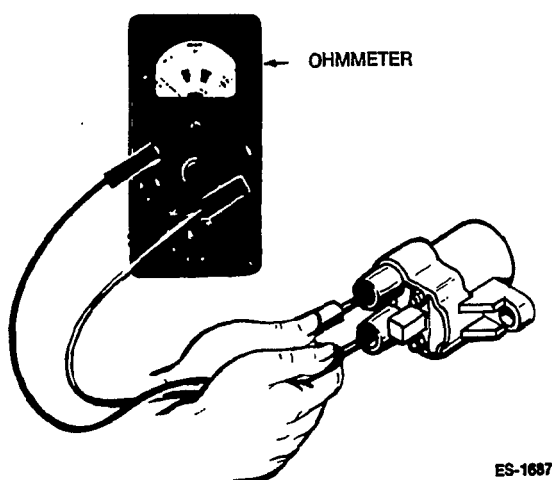

FIGURE 6-22. TESTING COIL RESISTANCE
2. To measure secondary circuit, connect the ohmmeter leads across the high tension tower terminals (Figure 6-22). Resistance should be between 14,500 and 19,800 ohms at 68°F (20°C). A lower reading indicates a shorted secondary winding. A higher reading indicates the coil has excessive internal resistance or an open circuit. Resistance between any terminal and the coil case/housing should be infinite.